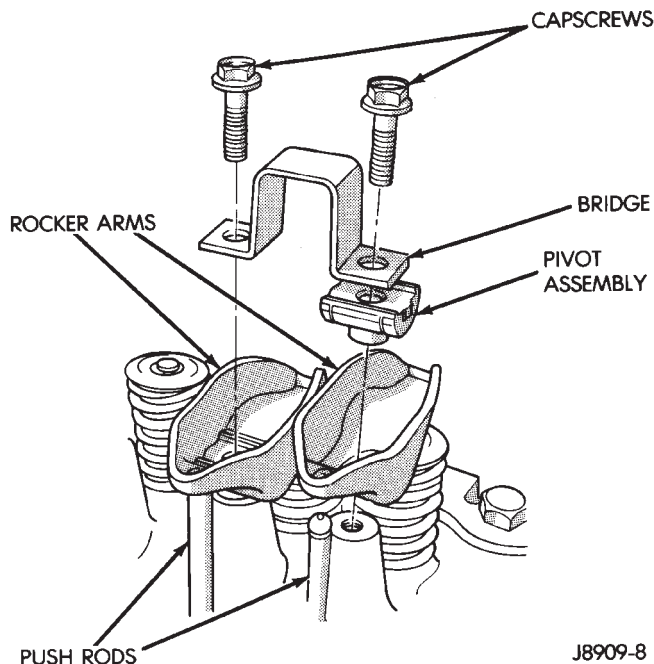
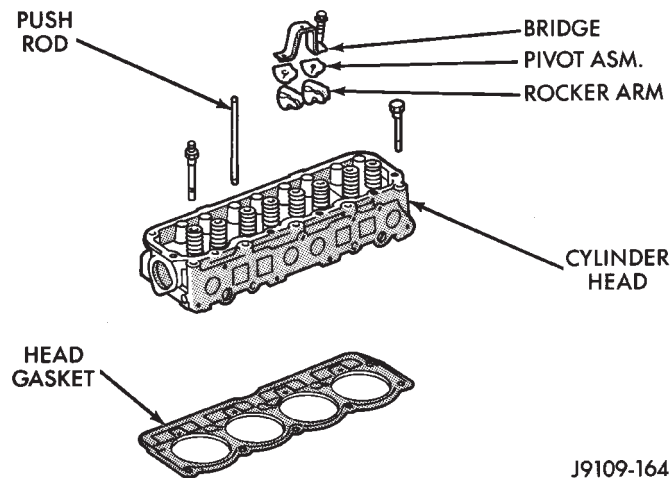

Fig. 2 Rocker Arm Assembly
Fig. 3 Engine Cylinder Head Assembly
- (1) Remove the engine cylinder head cover.
- (2) Remove the capscrews at each bridge and pivot assembly (Fig. 2). Alternately loosen the capscrews one turn at a time to avoid damaging the bridges.
- (3) Check for rocker arm bridges which are causing misalignment of the rocker arm to valve tip area.
- (4) Remove the bridges, pivots and corresponding pairs of rocker arms (Fig. 2). Place them on a bench in the same order as removed.
- (5) Remove the push rods and place them on a bench in the same order as removed.
(2) Drain the coolant and disconnect the hoses at the engine thermostat housing. **DO NOT** waste reusable coolant. If the solution is clean and is being drained only to service the engine or cooling system, drain the coolant into a clean container for reuse.
(3) Remove the air cleaner assembly.
(4) Remove the engine cylinder head cover.
(5) Remove the capscrews, bridge and pivot assemblies and rocker arms (Fig. 2).
(6) Remove the push rods (Fig. 2). **Retain the push rods, bridges, pivots and rocker arms in the same order as removed.**
(7) Loosen the serpentine drive belt at the power steering pump, if equipped or at the idler pulley (refer to Group 7, Cooling System for the proper procedure).
(8) If equipped with air conditioning, perform the following:
- (9) If equipped, disconnect the power steering pump bracket. Set the pump and bracket aside. DO NOT disconnect the hoses.
- (10) Remove the fuel lines and vacuum advance hose.
- (11) Remove the intake and engine exhaust manifolds from the engine cylinder head (refer to Group 11, Exhaust System and Intake Manifold for the proper procedures).
- (12) Disconnect the ignition wires and remove the spark plugs.
- (13) Disconnect the temperature sending unit wire connector.
- (14) Remove the ignition coil and bracket assembly.
- (15) Remove the engine cylinder head bolts.
- (16) Remove the engine cylinder head and gasket (Fig. 3).
- (17) If this was the first time the bolts were removed, put a paint dab on the top of the bolt. If the bolts have a paint dab on the top of the bolt or it isn't known if they were used before, discard the bolts.
- (18) Stuff clean lint free shop towels into the cylinder bores.